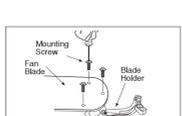

Figure 12
1. Mount the blade holders to the fan blades using the screws provided – 3 per blade (Figure 12). Please note the rubber washers are pre-attached to the blade holder.